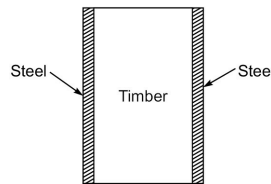

Fig. Q. 48
48. The maximum flexural stress in timber joist of the flitched beam shown Fig. Q. 48 is 6 N/mm^2 , then the maximum stress reached in steel is _____. Given the ratio of Young's modulus of steel to timber is 20.